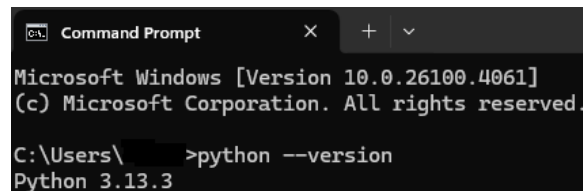

Figure 6.1. Verifying Python Version
2. Ensure you have Python 3 installed. To check, enter `python --version`. The output is as shown in Figure 6.1.